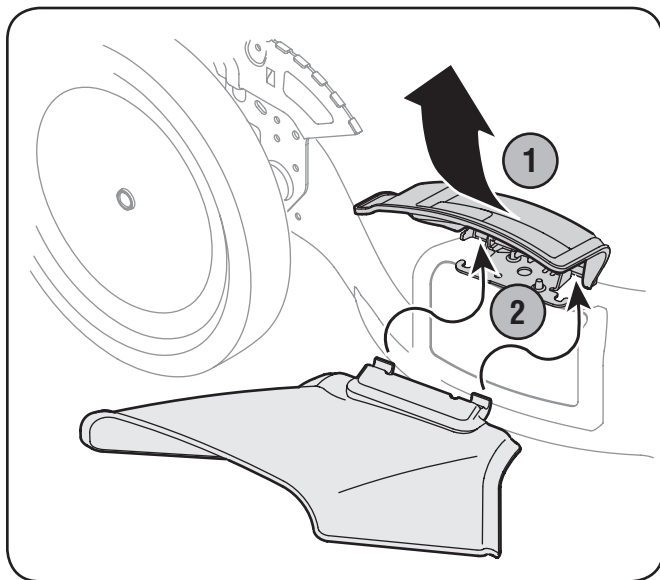

Figure 3-7
1. On the side of the mower, lift the mulching plug. See Fig. 3-7.